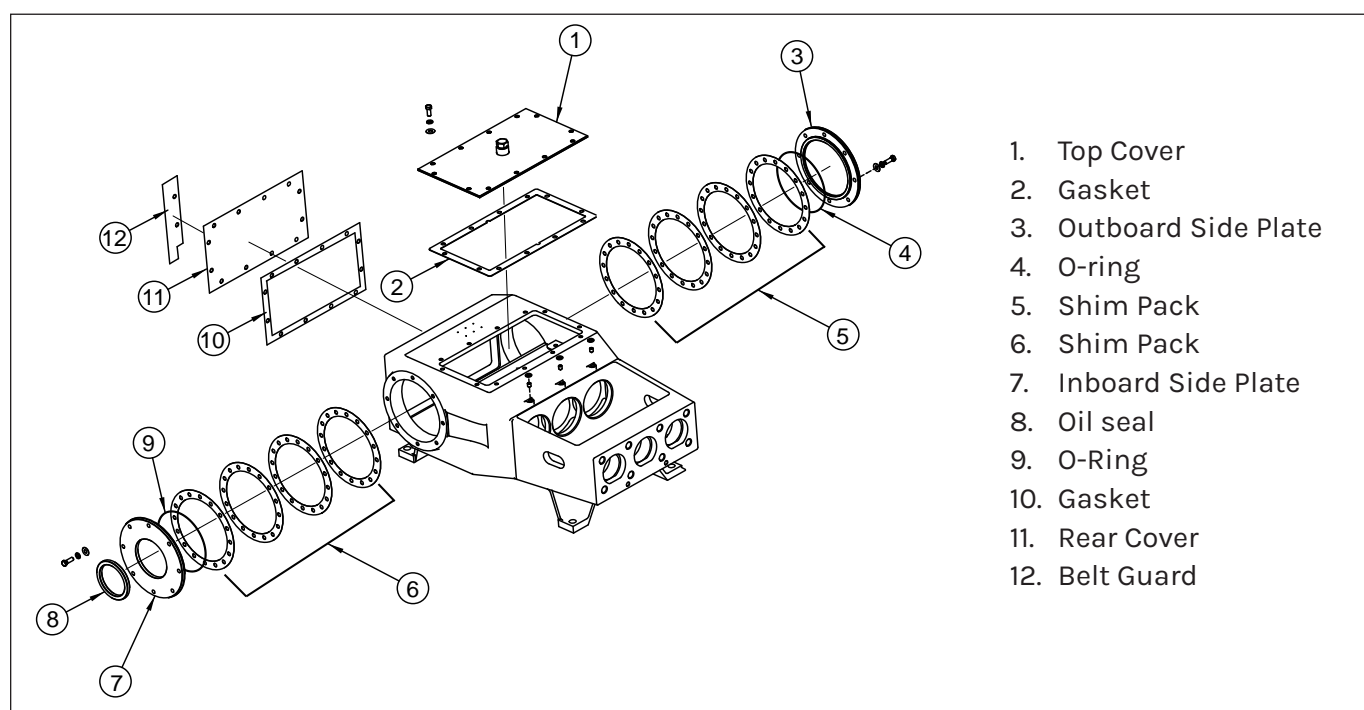

Figure 179: Power End Covers.
4. Remove the 12 capscrews and washers that secure the top cover (Figure 179) to the power frame. Remove the cover and the gasket.
5. Remove the 12 capscrews and washers that secure the rear cover (Figure 179) and belt guard to the power frame. Remove the cover, guard and gasket.
7. Remove the eight capscrews and washers that secure the inboard side plate (Figure 179) to the power frame.
9. Remove the eight capscrews and washers that secure the outboard side plate (Figure 179) to the power frame.